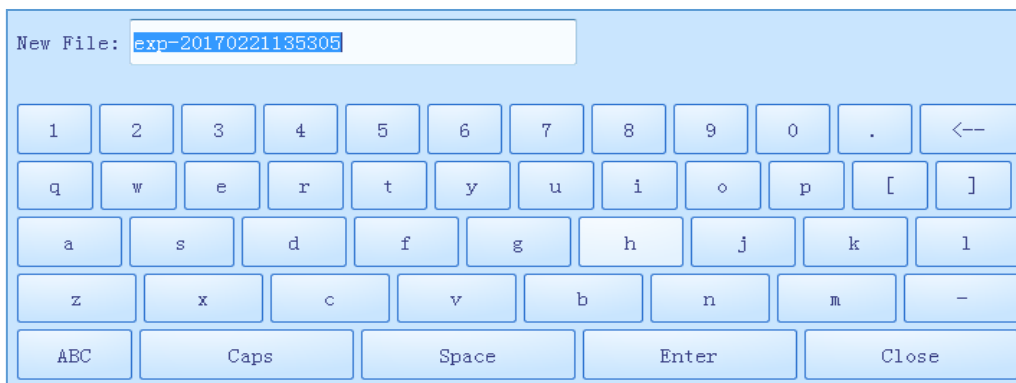

Figure3.2e Experiment File Interface - Keyboard
- ⓘ **Reminding:** the system will pop up a keyboard for users to name the new experiment file or file folder, as shown in figure 3.2e. Users can press < **Close** > to exit the keyboard.